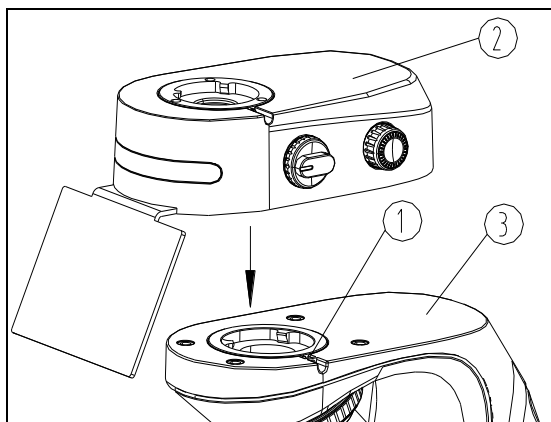

Fig. 26
2. Loosen the locking screw ① of the observation head with the provided hex wrench until the observation head can be removed. Remove the observation head and place on the bench.
3. Put the dovetail interface at the bottom of the LED fluorescence illuminator ② onto the microscope body ③ interface (see arrow), and tighten the locking screw ① with the hex wrench. (See Fig. 26)